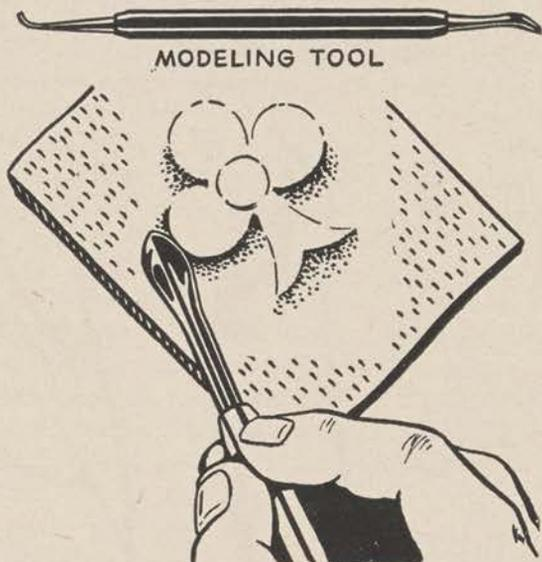

Figure 20.
*b.* Tooling should be done on a flat surface which will not absorb water from the leather. A slab of marble or a sheet of glass is excellent as it keeps the leather cool and provides a smooth surface. To lower the background evenly, use the broad end of the modeling tool illustrated. Dampen the leather until it is thoroughly moist, but not wet enough to give out water when pressed. Starting at the edge of the design, push the background down with short circular strokes of the modeling tool (fig. 20). Always